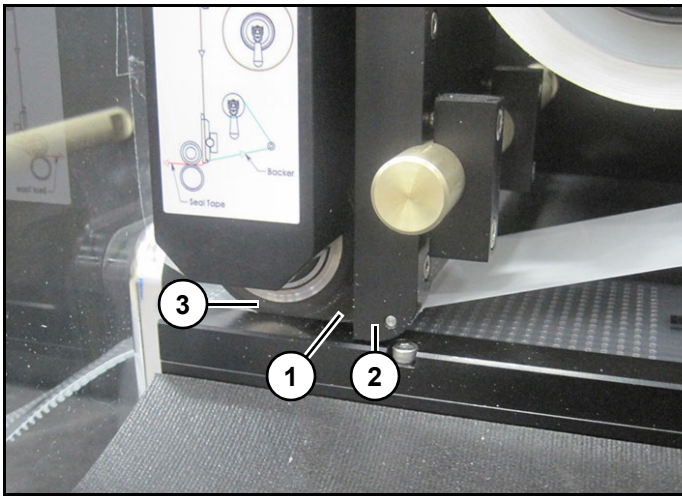

Figure 9
10. Feed clear seal tape (1) under seal guide (2) and nip roller (3). (Figure 9)